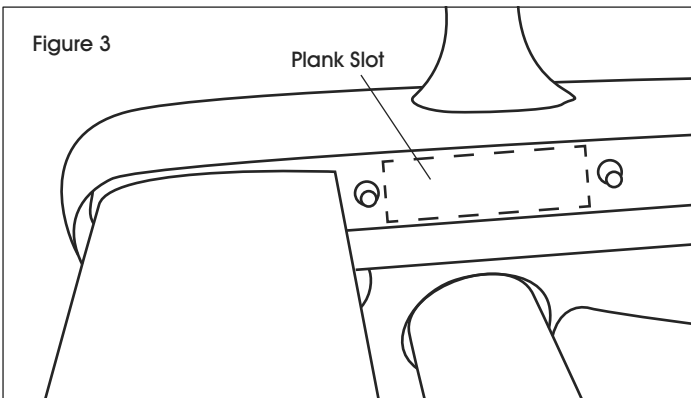

Figure 3
4. Beginning with the seat, add the planks. The front plank on the seat and the top plank on the backrest have a rounded edge. This edge should face out. (See Figure 3)
5. Space planks appropriately using the special slots in the side frames to hold each plank. (See Figure 3)